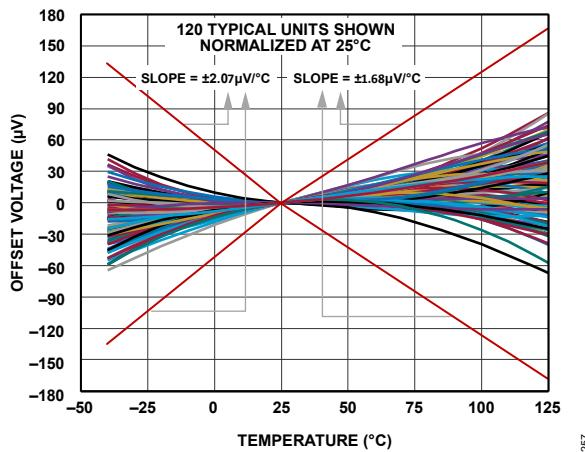

Figure 57. Bowtie Method
Typically, in applications where the AD8412A is used, a calibration is done at $+25^\circ\text{C}$. If a single-point calibration at $+25^\circ\text{C}$ is done, this creates a plot shown in Figure 57. For each part, the slope of the line from -40°C to $+25^\circ\text{C}$ and the slope from $+25^\circ\text{C}$ to $+125^\circ\text{C}$ are calculated. The mean and standard deviation for the slope of all the parts from
-40°C to +25°C are then calculated. The V_{OS} maximum drift of $\pm 2.07\mu\text{V}/^\circ\text{C}$ using the bowtie method is then calculated using Equation 2. The mean and standard deviation for the slope of all the parts from +25°C to +125°C is then calculated. The V_{OS} maximum drift of $1.68\mu\text{V}/^\circ\text{C}$ using the bowtie method is then calculated using Equation 2. The red lines in *Figure 57* represent the worst-case V_{OS} drift slopes using the bowtie method that a user can guarantee through characterization. Calibrating at +25°C allows the maximum V_{OS} over the full temperature range to be reduced to $\sim \pm 168\text{V}$, as opposed to the $\pm 200\mu\text{V}$ listed in the *Specifications* section as the maximum V_{OS} over temperature (with no calibration).